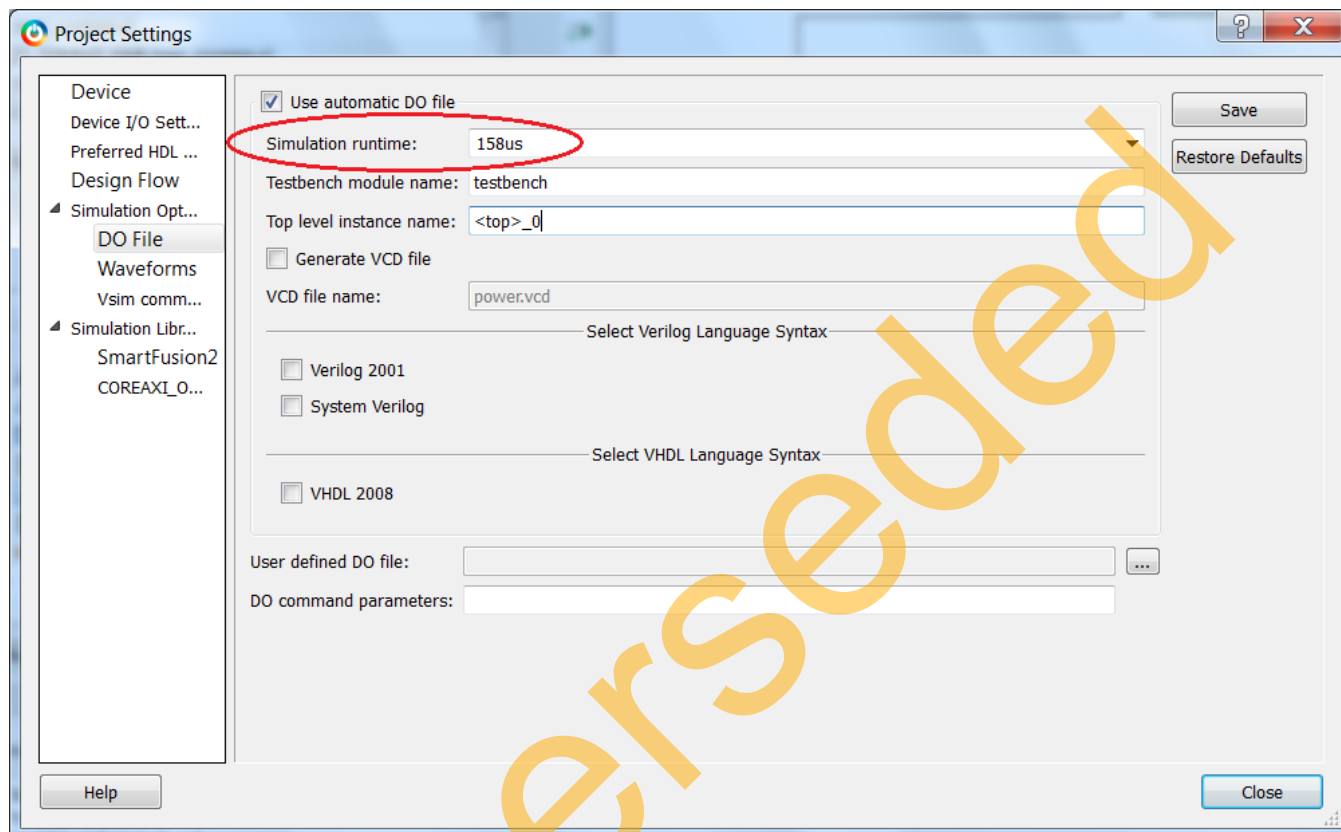

Figure 29. Simulation Runtime
1. The simulation tool must be set up before invoking so that it loads with your desired settings. Select **Project > Project Settings**. On the Project Settings pane, under the Simulation Options, select **Do File**. Modify the Simulation Runtime to **158 us**, as shown in Figure 29.